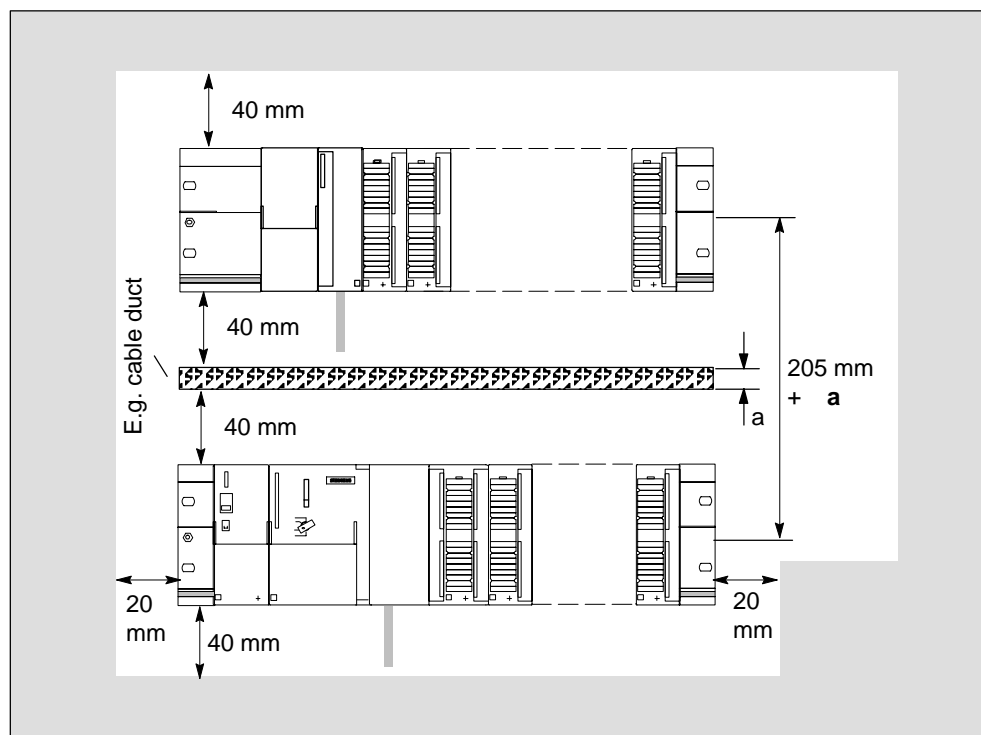

Fig. 4-2 Clearances
Fig. 4-2 shows the clearances between the individual racks and the clearance to adjacent equipment, cable ducts, cabinet walls, etc.
1. Fit the mounting rail in a position that will allow enough room for the modules to be installed and for the heat to dissipate (a minimum of 40 mm above and below the mounting rail; see Fig. 4-2).